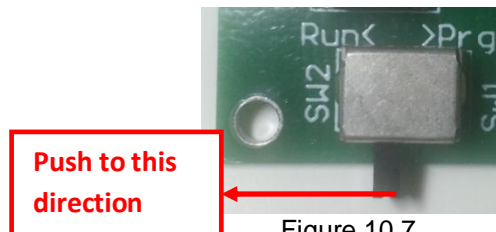

Figure 10.7.
9. Push “SW2” to “Run” position and press “SW1” “RST” reset button once, Figure 10.7. The user application should start executing.